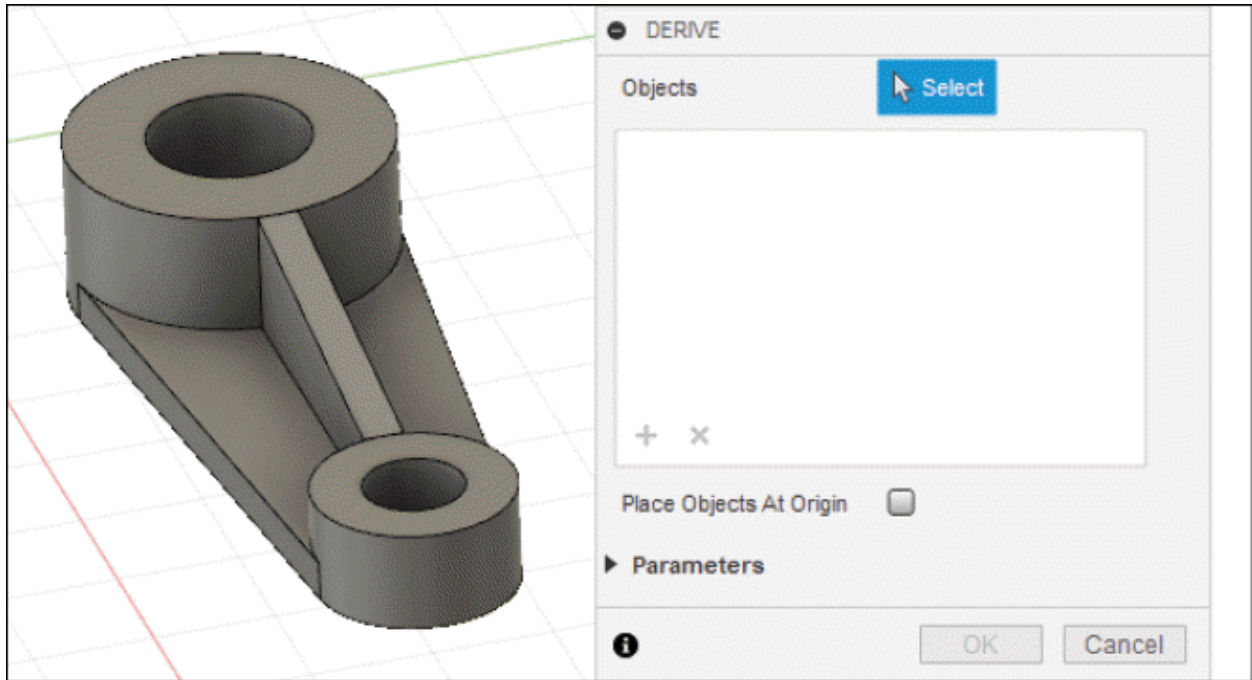

Figure-3. DERIVE dialog box
- Select desired source component and click on the **Select** button from **Select Source** dialog box. The selected component will be inserted in the canvas along with the **DERIVE** dialog box; refer to Figure-3.